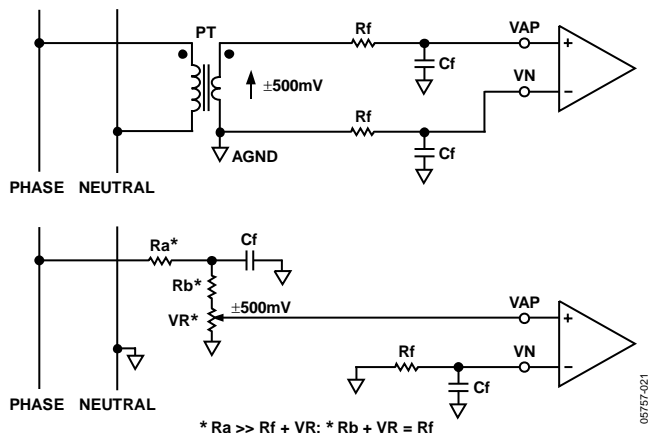

Figure 21. Typical Connections for Voltage Channels
Figure 21 shows two typical connections for the voltage channel. The first option uses a potential transformer (PT) to provide complete isolation from the main voltage. In the second option, the ADE7762 is biased around the neutral wire, and a resistor divider is used to provide a voltage signal proportional to the line voltage. Adjusting the ratio of Ra, Rb, and VR is a convenient way of carrying out a gain calibration on the meter. VR can be implemented using either a potentiometer or a binary weighted series of resistors. Either configuration works, however, the potentiometer is subject to noise over time. Two fixed value resistors can be used in place of VR to minimize the noise.